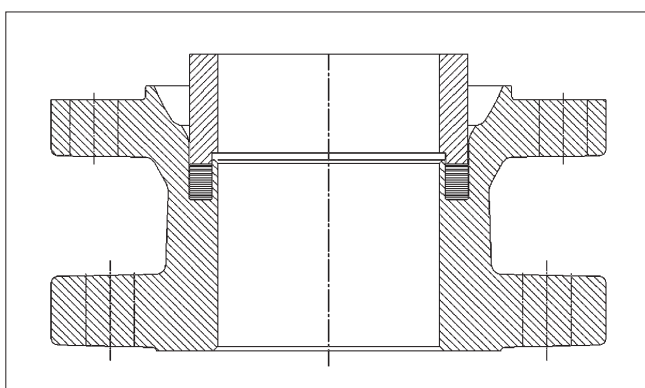

Fig. 26 Compressing the J seat
- Set back seal pressing tool on top of seal stack as seen in Figure 26.